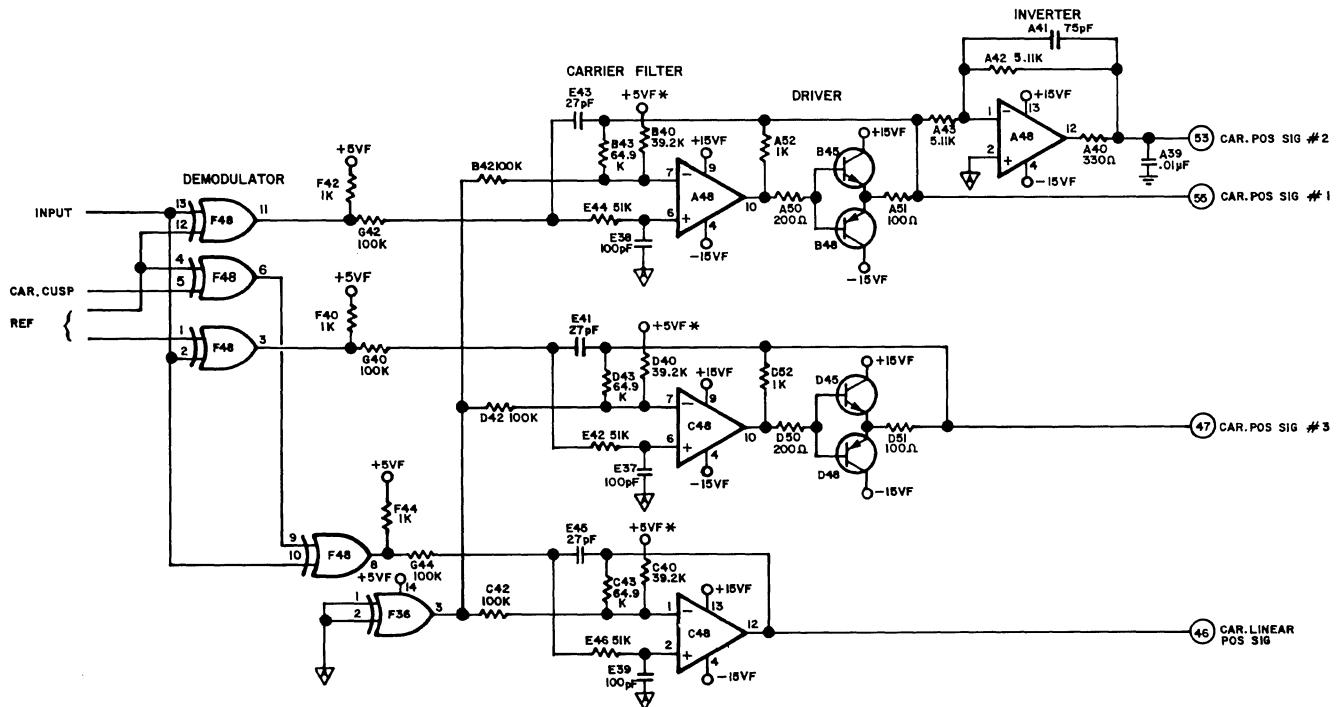
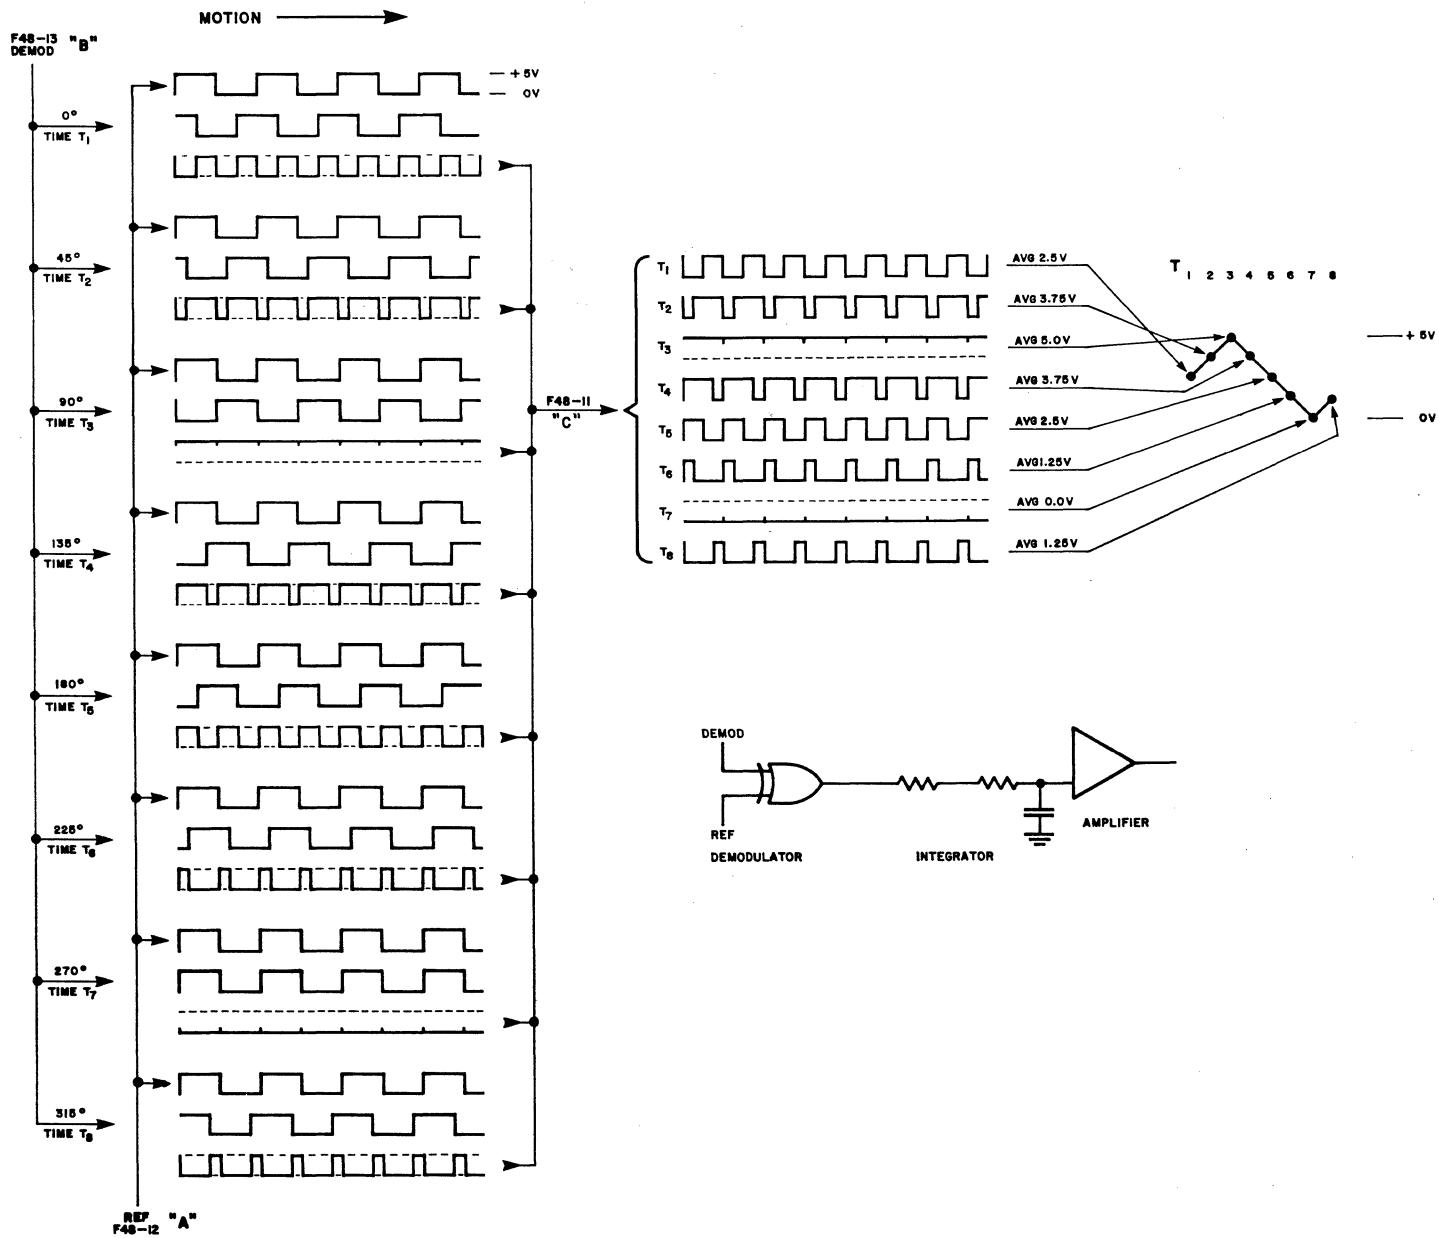

Figure 4-12 SERVO FEEDBACK DEMODULATOR/INTEGRATOR/AMPLIFIER
Figure 4-14 WAVEFORM ANALYSIS
Figure 4-12 is a partial schematic showing the Servo Feedback Demodulator/Integrator/Amplifier circuit. Figure 4-13 shows waveforms taken in this circuit.
Figure 4-14 illustrates the development of the output waveform (C) from the two input waveforms (A and B), and further shows the sawtooth waveshape developed in the integrating circuits for amplifiers A48-10 and C48-12. The output of A48-10 is then supplied to amplifier A48-12. These three amplifiers produce the waveshapes called CAR POS SIG #1, CAR POS SIG #2, and CAR POS SIG #3. In addition, when the carriage has stopped, the lower circuit shown in Figure 4-12 produces a signal called CAR LINEAR MODE, which is used to detent the servo.